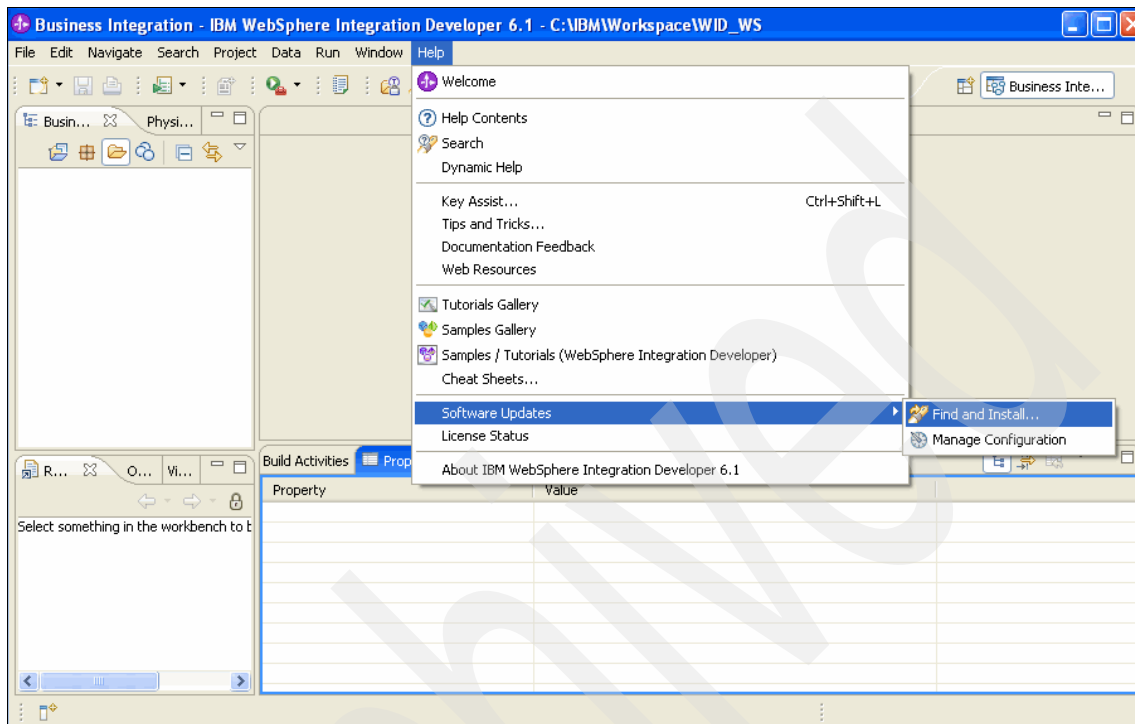

Figure 8-33 Finding and installing software updates
5. From the menu bar, select **Help** → **Software Updates** → **Find and Install...** (Figure 8-33).